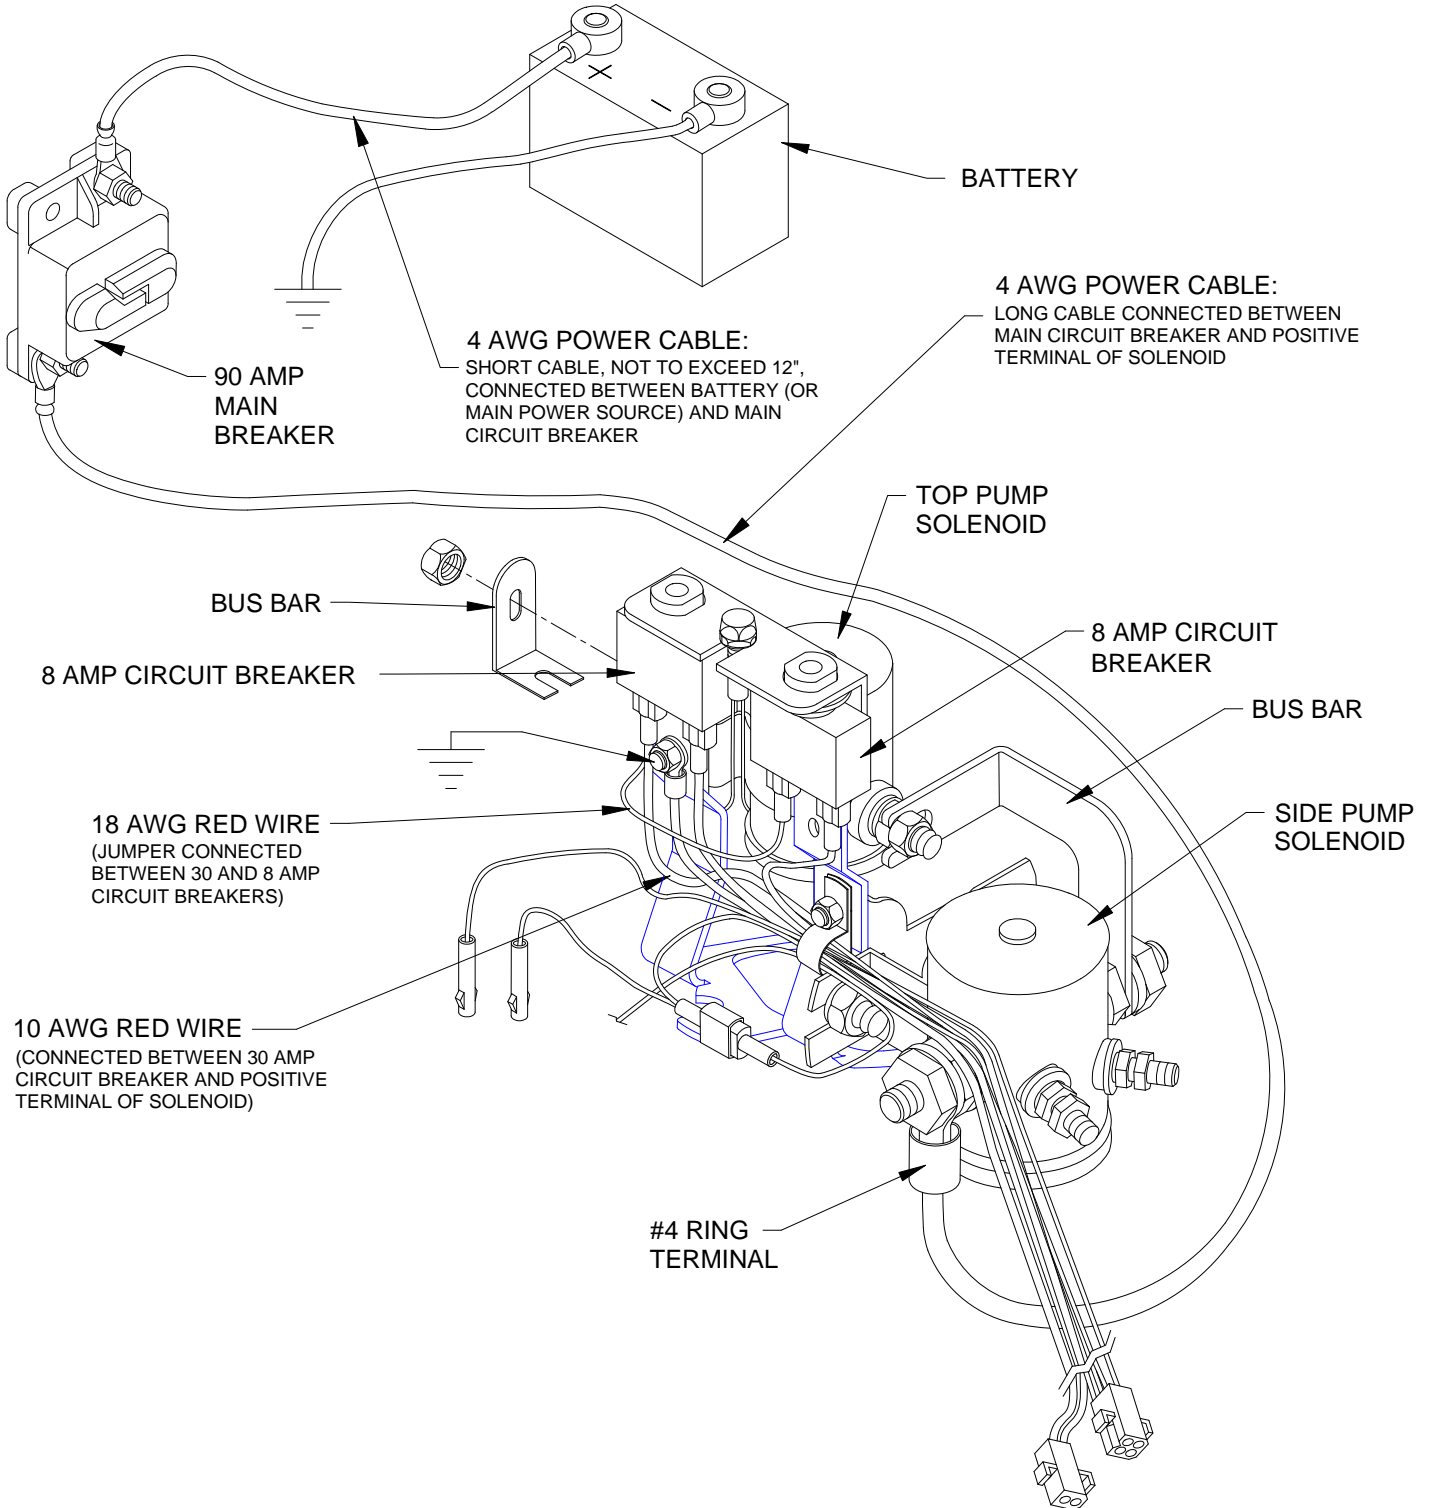

FIGURE 2-7: ELECTRICAL INSTALLATION DIAGRAM
- Refer to **Figures 2-7** and **2-8**. Drill a hole through vehicle floor near or under pump solenoids so power cable can reach positive stud of side solenoid (the stud on side solenoid that is not connected to top solenoid with a bus bar). Drill hole where the installed pump cover will cover it.